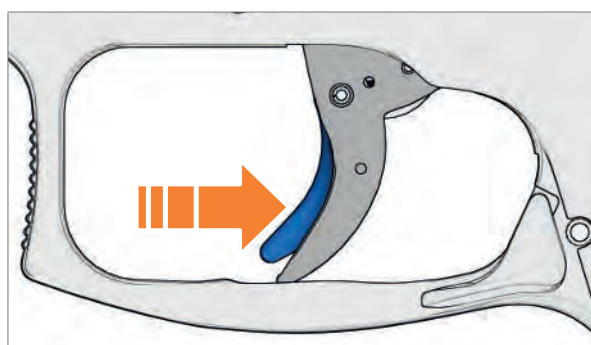

Fig. 18: Push trigger safety towards the rear
2. Push trigger safety and trigger towards the rear (Fig. 18).